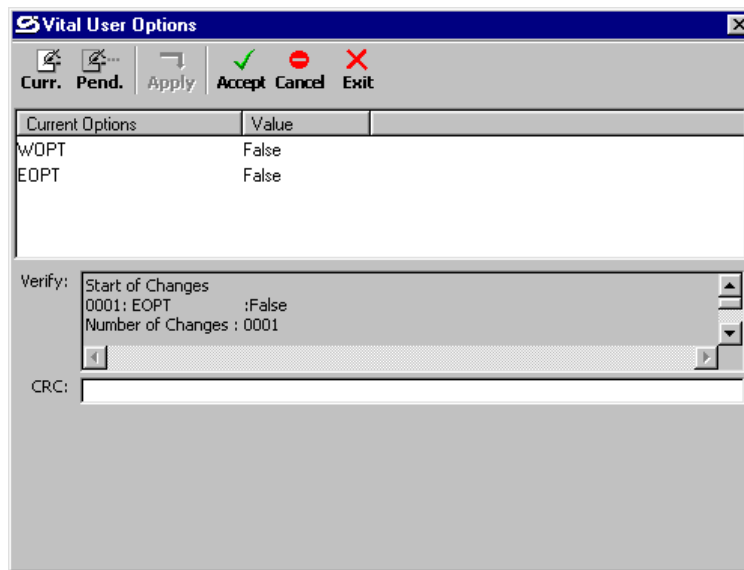

Figure 3-42
- After all value changes are completed using the process just described, click on **Apply** at the top of the **Vital User Options** screen. The GDT sends the changes to the GEO™ unit which processes the changes and then returns data that is displayed in the GDT “Verify” list box (see figure 3-42). Note that the **Apply** button is disabled after being clicked on.